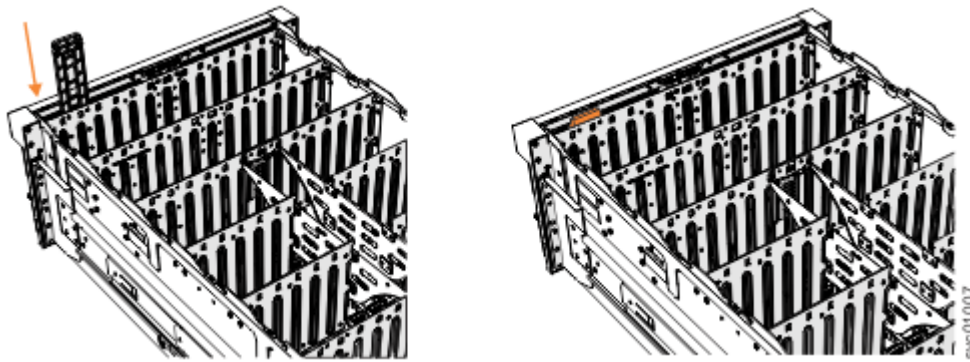

Figure 158. Installing the display panel assembly
6. Carefully align the display panel assembly in the slot at the front of the expansion enclosure, as shown in Figure 158 on page 200.